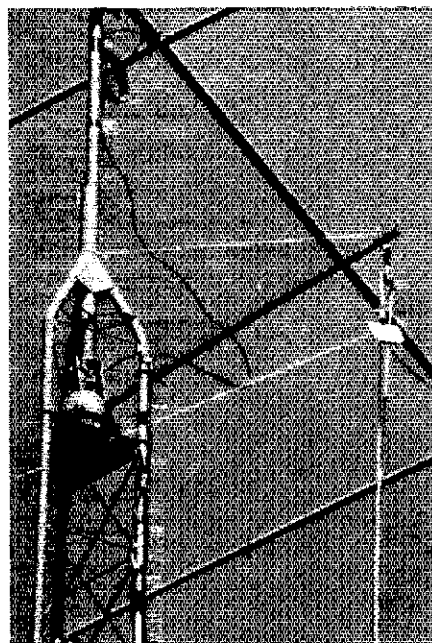

Fig 1—Photograph of a tower that is equipped with the yardarm of Fig 2.
Although I own a 50-foot tilt-over tower, I find it time-consuming to disconnect my wire antennas and winch the top section up and down each time I want to hoist a new wire antenna. I decided to eliminate that tedious routine by installing a yardarm with a pulley and halyard near the top of my tower. Fig 1 shows a photograph of the yardarm after I installed it. Presently it supports one corner of a full-wave rectangular loop antenna for 80 meters. The far end of the loop is held aloft by a 50-foot telescoping mast.
during high winds and periods of icing. Fig 2 shows details for the yardarm of Fig 1. Note that two methods are used to increase the load limit of the unit: (1) A wooden dowel is contained within the pipe. The dowel is the same length as the pipe section. (2) A small eye bolt is added at the outer end of the yardarm. The eye bolt